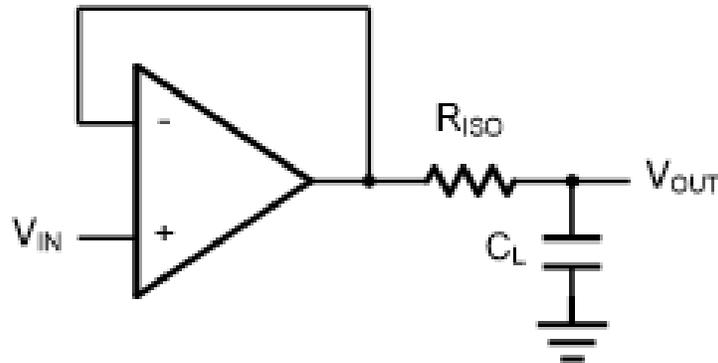
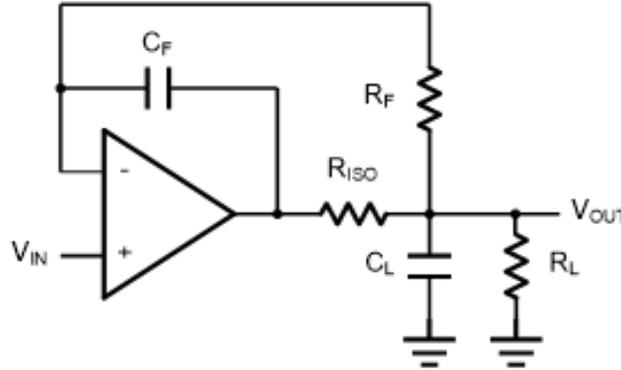

Figure 2. Indirectly Driving a Capacitive Load Using Isolation Resistor
Figure 3. Indirectly Driving a Capacitive Load with DC Accuracy
The MCOA321/358/324 family is optimized for bandwidth and speed, not for driving capacitive loads. Output capacitance will create a pole in the amplifier's feedback path, leading to excessive peaking and potential oscillation. If dealing with load capacitance is a requirement of the application, the two strategies to consider are (1) using a small resistor in series with the amplifier's output and the load capacitance and (2) reducing the bandwidth of the amplifier's feedback loop by increasing the overall noise gain. Figure 2. shows a unity gain follower using the series resistor strategy. The resistor isolates the output from the capacitance and, more importantly, creates a zero in the feedback path that compensates for the pole created by the output capacitance.
The circuit in Figure 3 is an improvement to the one in Figure 2. RF provides the DC accuracy by feed-forward the VIN to RL. CF and RISO serve to counteract the loss of phase margin by feeding the high frequency component of the output signal back to the amplifier's inverting input, thereby preserving the phase margin in the overall feedback loop. Capacitive drive can be increased by increasing the value of CF. This in turn will slow down the pulse response.